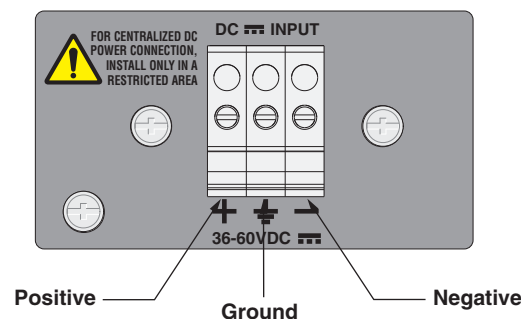

Figure 25. Positive, Ground, and Negative Terminals
2. On the rear side of the chassis is a DC terminal block. Starting from the left side of the terminal block, identify the **positive**, **frame ground**, and **negative** terminals using the symbols beneath the terminal block or the illustration in Figure 25.